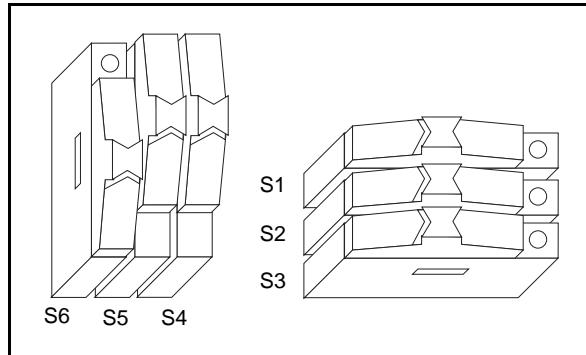

Figure 3. Differential Temperature Sensor Switch Configuration
- For differential operation, connect the analog channel 0 to the temperature sensor by switching S5 and S4 to the up position, as shown in Figure 3.